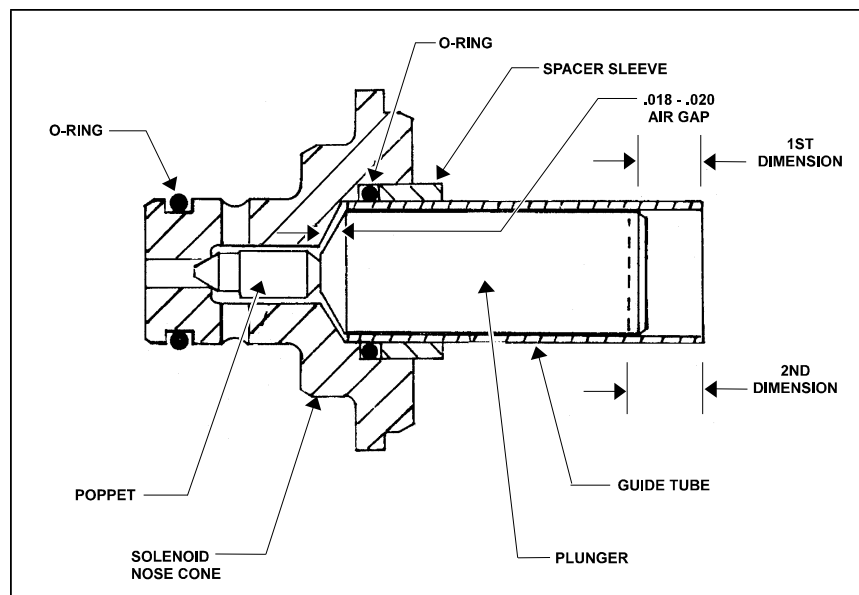

Figure 2-17. Racine Proportional Air Gap Adjustment, Machines Built Prior to Mid 1987
1. With all parts assembled as shown in Figure 2-17., use a depth mike or other measuring instrument to determine the distance from the end of the guide tube to the exposed end of the plunger. Record this dimension.
NOTE: *The assembly in Figure 2-17. includes select fit parts in order to maintain a proper air gap. These parts must remain as an assembly or if disassembled, controlled to ensure that these component parts are not intermixed with similar parts.*